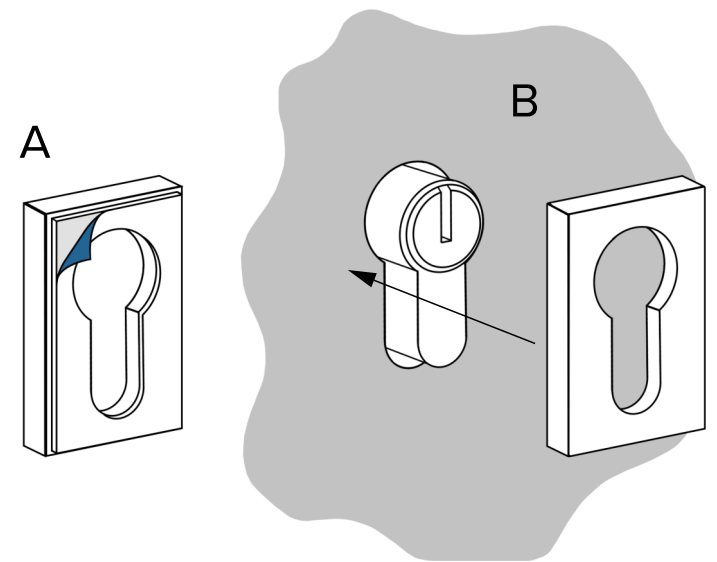

Figure 33 – installing the plates
To install the Wall pad, degrease the installation place (around the hole for the cylinder), peel off the protective film of the adhesive base (A), and stick the pad on the installation place (B) (figure 33).